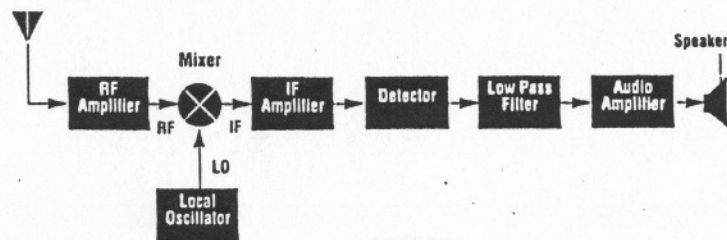

Figure 1. Analog Receiver Block Diagram
As shown in Figure 1, we need an antenna to pick up the signals from the air. Then we need a tuned radio frequency (RF) amplifier to boost the weak signal from the antenna. Its output is fed into a multiplier, usually referred to as a mixer or down converter. This device has an additional input that comes from an internal variable-frequency local oscillator (LO). When we tune to a station, all we are doing is changing the center frequency of the RF amplifier (F_{RF}) and the frequency of the LO (F_{LO}), so that we can make the difference equal a fixed frequency $F_{IF} = F_{RF} - F_{LO}$.